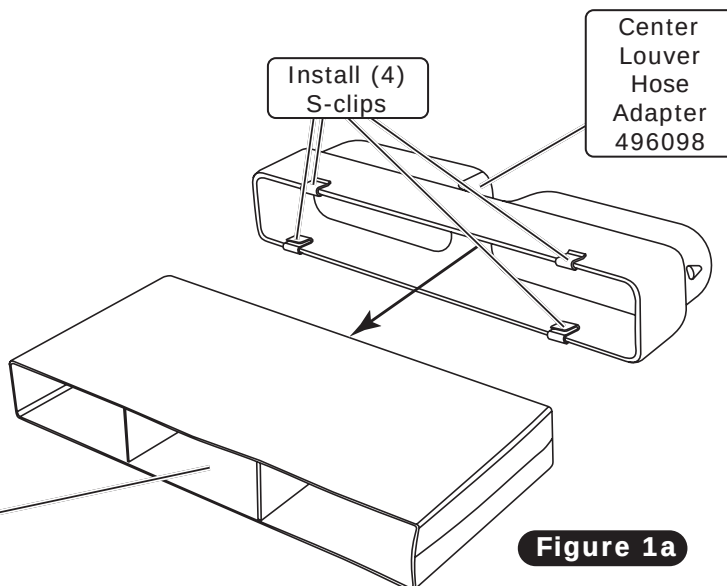

Figure 1a
3. Install the center louver hose adapter onto the center louver assembly as shown in Figure 1a, below.